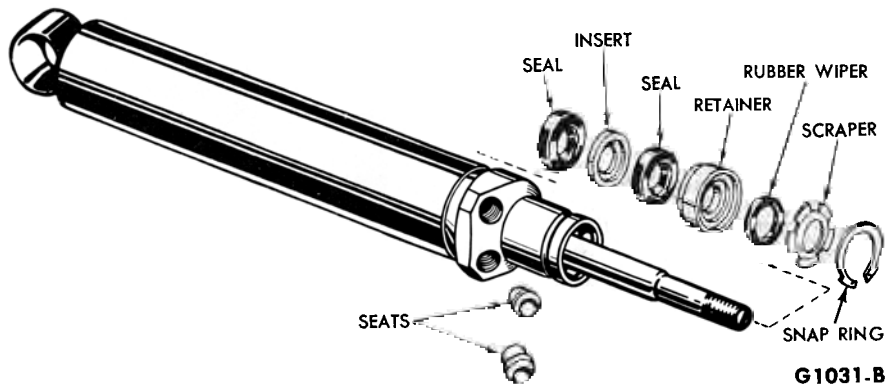

FIG. 19—Power Cylinder
1. Coat the new seals with lubricant COAZ-19553-A and place the parts (Fig. 19) on the piston rod which has been coated with the same grease.